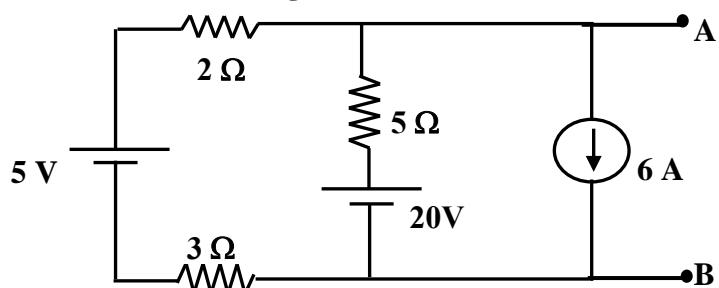

Figure 4
4. Using source conversion method, simplify the given circuit in Figure 4 to its equivalent current source between the terminals AB.